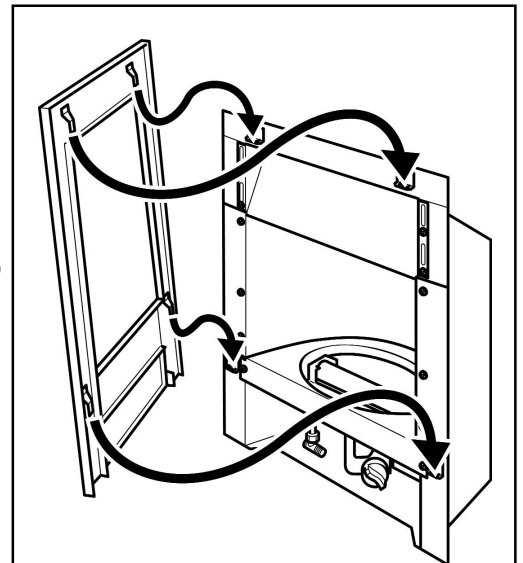

Figure 27. Fascia location (Shown with Aspect fascia)
2. Carefully lift the fascia. Place the fascia against the fireplace front surface so that the four retaining plates at the back of the fascia are directly above the four retaining brackets of the hotbox. There are two at the top of the hotbox and two to the side of the burner module. Lower the fascia unit making sure that the retaining plates locate fully into the brackets on the hotbox (See figure 27).